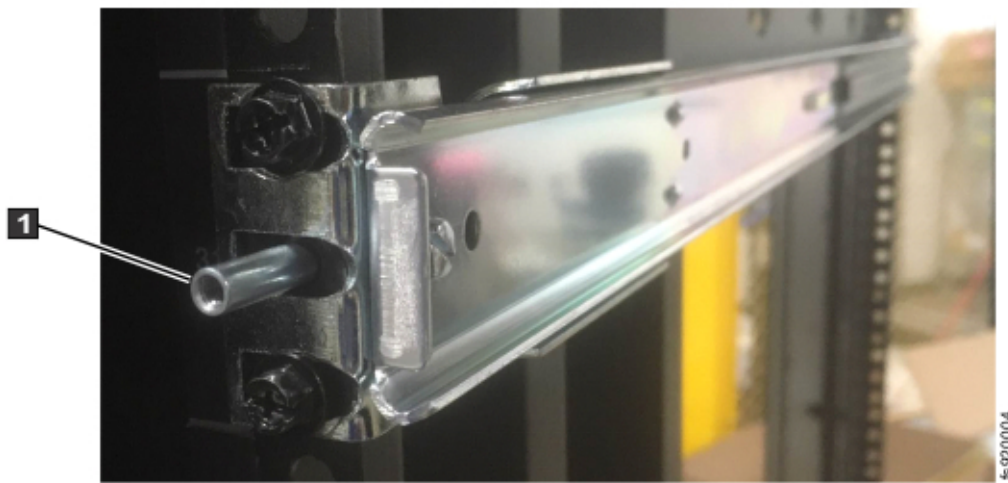

Figure 251. Rack front detail
- a) Attach a mounting bracket to each end of the outer rail members by using two of the supplied bolts, nuts, split washers, and washer sets per bracket, as shown in Figure 251 on page 337. Leave the nuts slightly loose to assist installing to the correct length.
- c) Attach the rail outer members into the front of the rack by inserting the nut plate (P/N 00E6806) behind the front rack upright and securing it with two screws (P/N 46C6380) per side, as shown in Figure 251 on page 337.